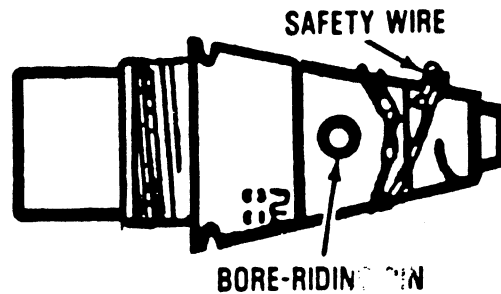

Fig 3-12. M526 series fuze.
- (4) The M526 series fuze (fig 3-12) has a SQ/IMP function only. It is fitted with a safety wire and bore-riding pin that is removed immediately before firing.